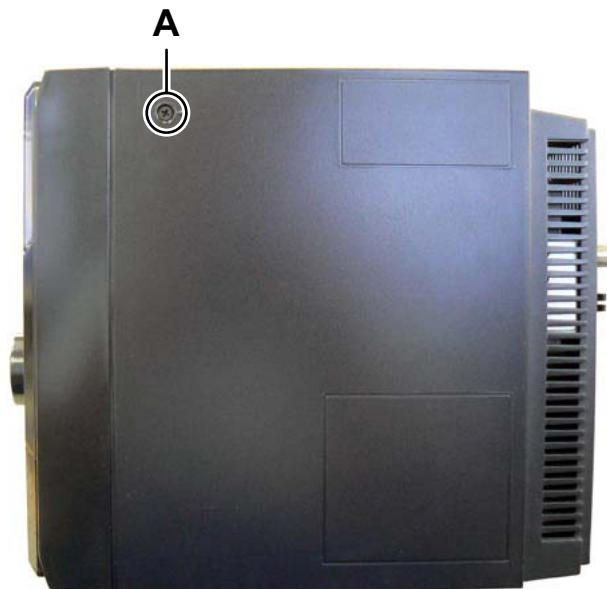

Fig.1
3.1.1 Removing the REAR COVER (See Fig.1 to 4)
- (1) Remove the two screws **A** attaching the both side of REAR COVER. (See Fig.1)